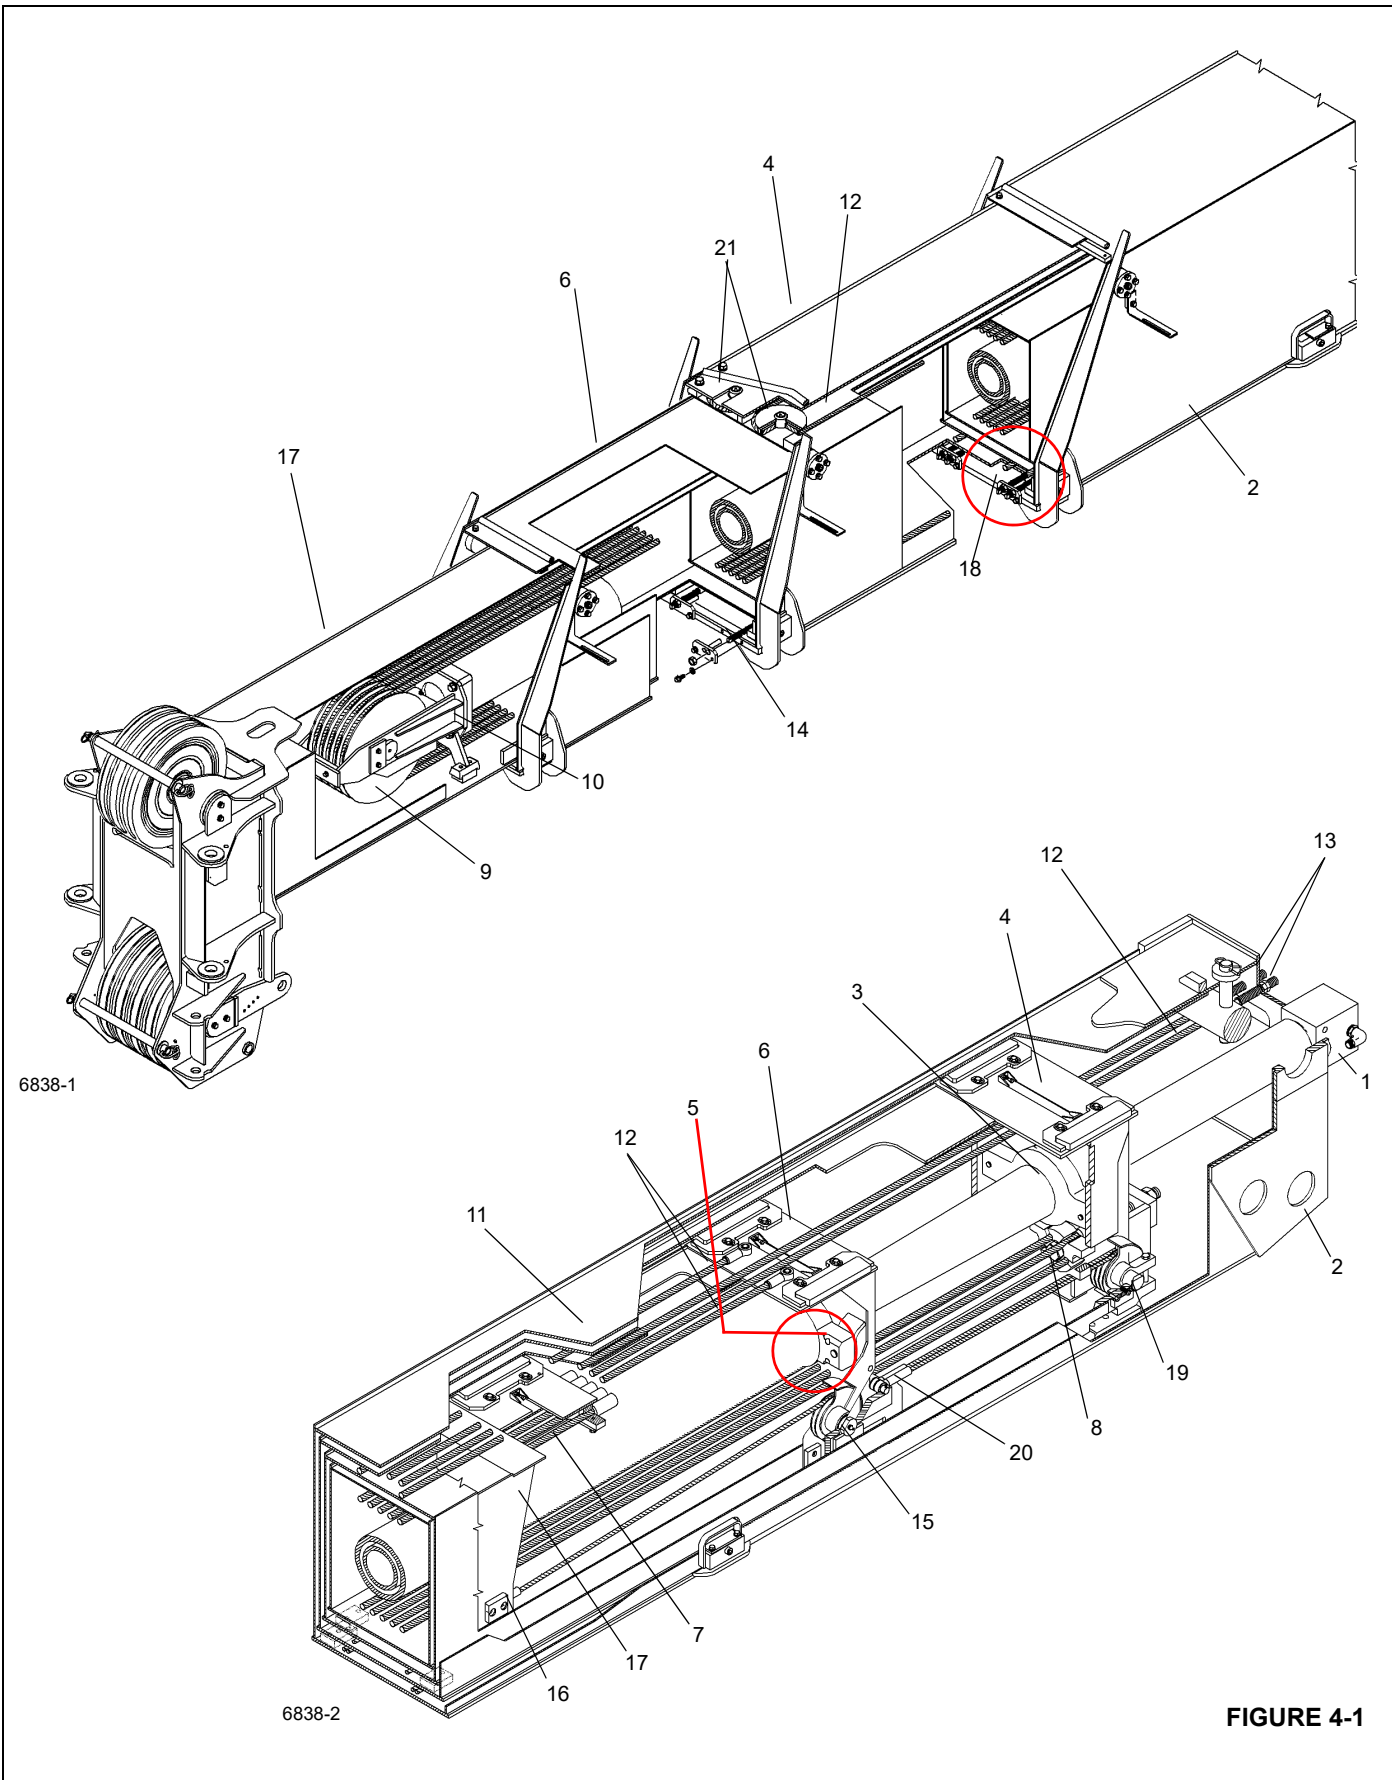

FIGURE 4-1
The telescope cylinder is attached to the boom in three places: (refer to Figure 4-1 for item location).
The fly section has five extension cables (7) attached to it. Refer to Figure 4-1 for item location.
Refer to Figure 4-1 for item location. The long extend synchronizing cables (12) are connected to the rear of the
Refer to Figure 4-1 for item location. The two retraction cables (14) are secured at the outside front of the inner mid-section (4), are routed around sheaves (15) mounted on the end of the outer mid-section (6) and are secured at the opposite end (16) to the fly section (17).
Refer to Figure 4-1 for item location. The four retraction cables (18) are secured at the outside front of the base section (2), are routed around sheaves (19) mounted on the end of the inner mid-section (4) and are secured (20) at the opposite end to the outer mid-section (6).
Refer to Figure 4-1 for item location. As the telescope cylinder extends, the cylinder barrel (5), which is attached to the outer mid-section (6), and the inner cylinder rod (3) which is attached to the inner mid-section (4), pulls the mid sections out along with it.
Refer to Figure 4-1 for item location. As the telescope cylinder is retracted, the outer mid-section (6) (attached to the cylinder barrel) and the inner mid-section (4) (attached to the inner cylinder rod) are pulled in.